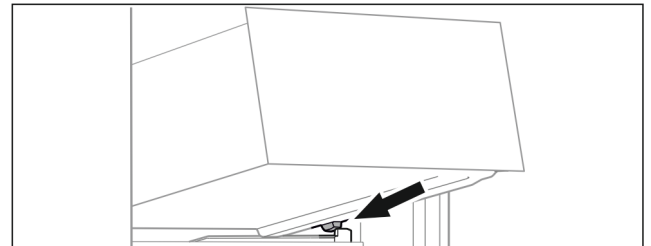

Fig. 61
- Place drawer at an angle behind the stoppers on the moulded rib. (see Fig. 61)